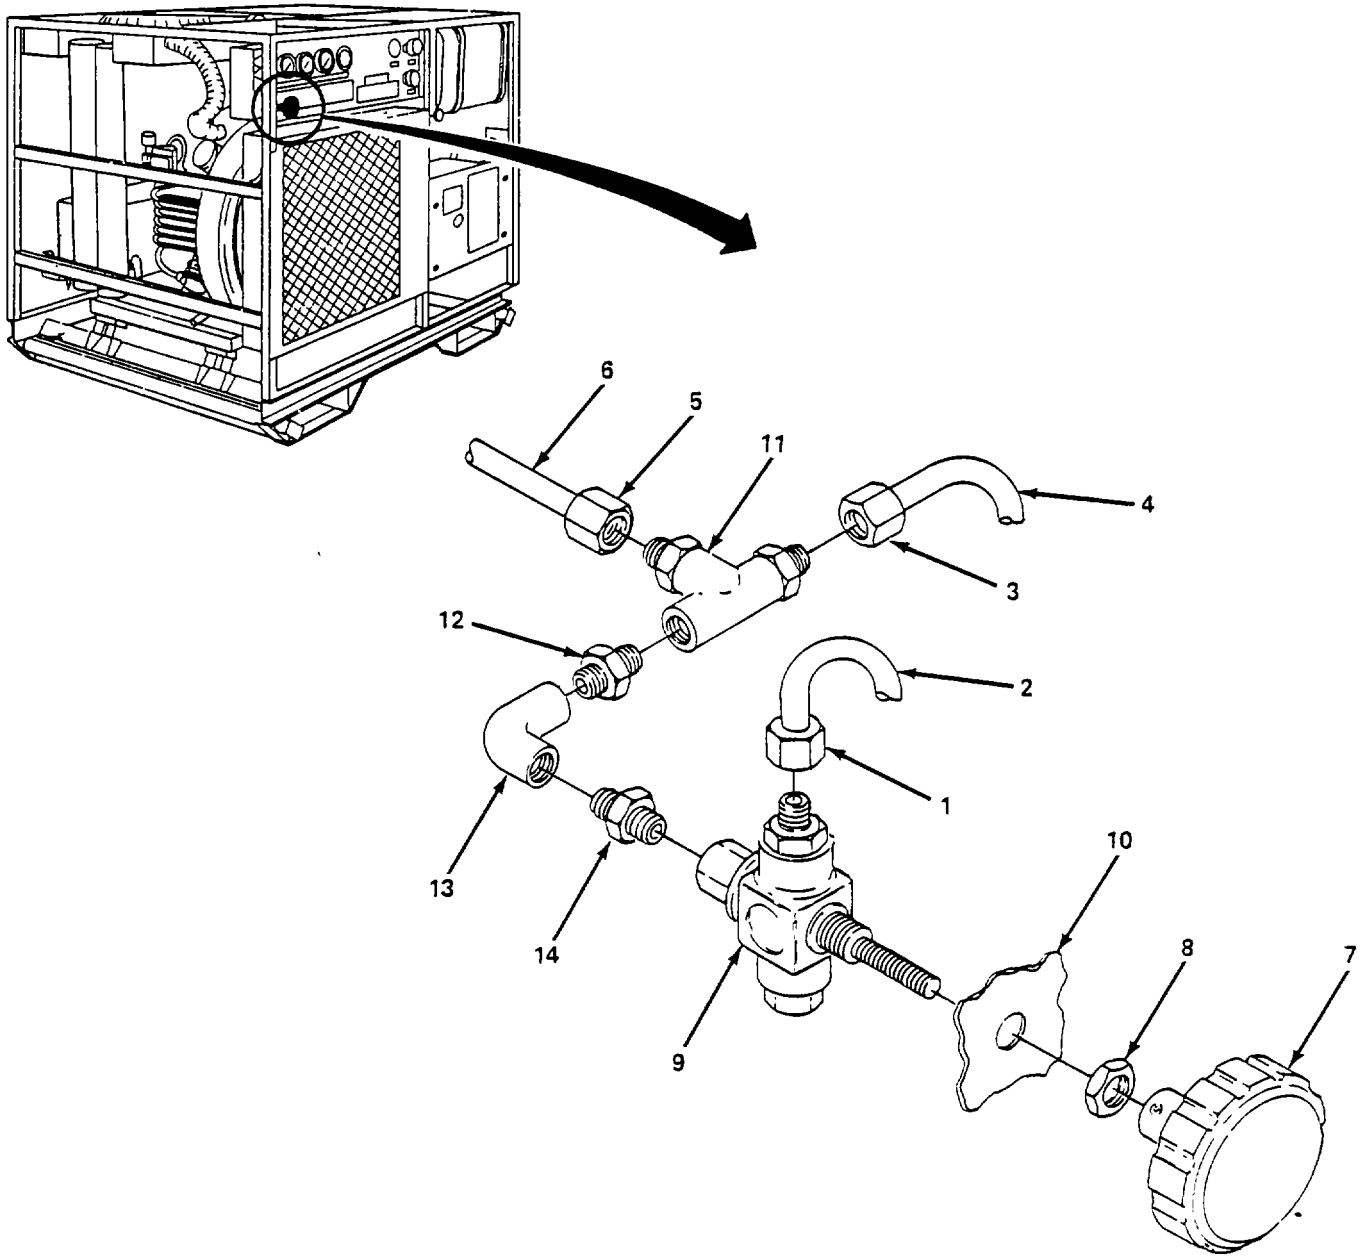

Figure 5-3. Service Line Control Valve, Replace.
Replace. (figure 5-3)**WARNING**
(1) *Service line control valve.* (figure 5-3)
- (a) Loosen fitting nut (1) and remove line (2).
- (b) Loosen fitting nut (3) and remove line (4).
- (c) Loosen fitting nut (5) and remove line (6).
- (d) Remove knob (7) and nut (8), and remove control valve (9) from control panel (10).
- (e) Remove tee (11) from fitting (12) and elbow (13).